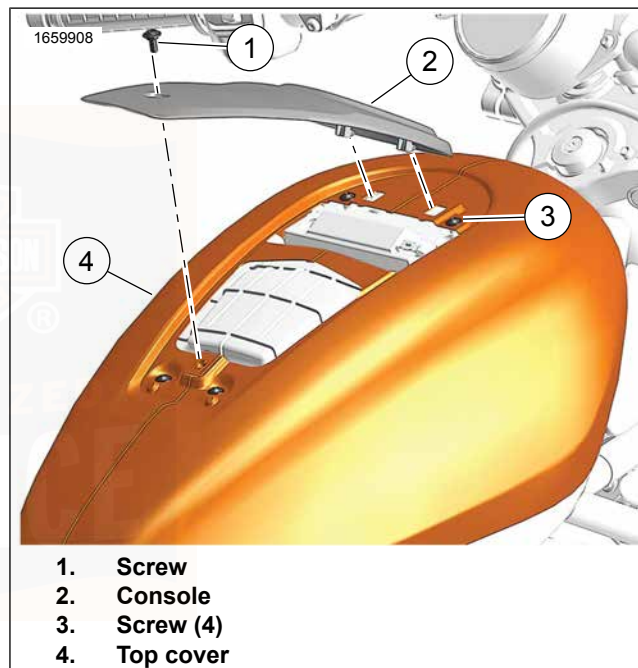
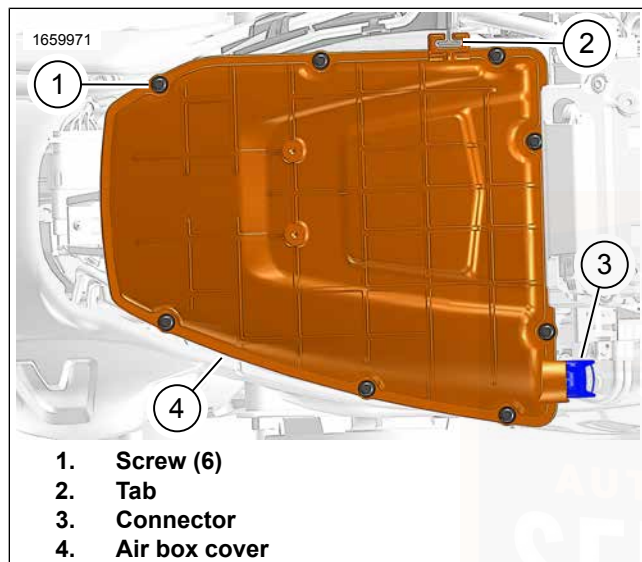
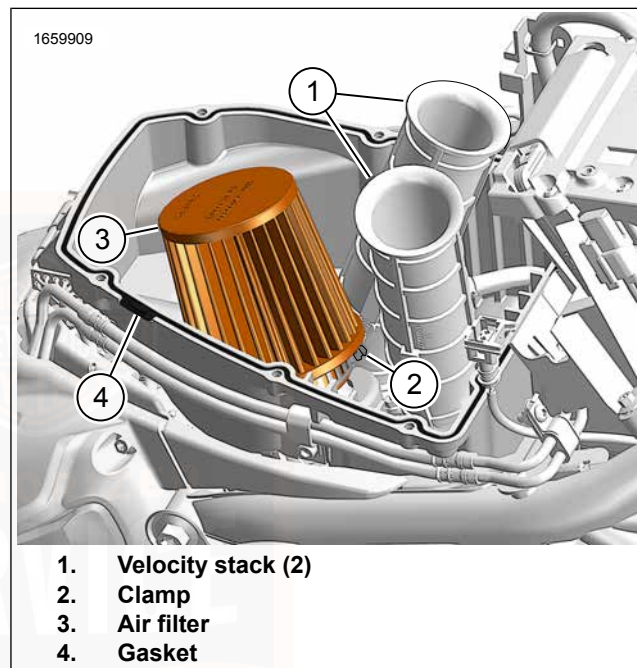

Figure 71. Top Cover
Figure 72. Air Box Cover
Figure 73. Air Filter Maintenance
1. See Figure 71. Remove top cover.
- a. Remove screw (1).
- b. Lift rear of console (2) to remove.
- c. Remove screws (3).
- d. Remove top cover (4).
2. See Figure 72. Remove air box cover.
- a. Disconnect connector (3).
- b. Remove screws (1).
- c. Remove air box cover (4).
3. See Figure 73. Remove air filter.
- a. Cover velocity stacks (1) with clean rags.
- b. Loosen clamp (2).
- c. Remove air filter (3).
- 1. See Figure 73. Install air filter.
- a. Install air filter (3).
- d. Remove rags from velocity stacks (1).
- e. Verify gasket (4) is in place. Replace gasket if damaged.
2. See Figure 72. Install air box cover.
- c. Connect connector (3).
3. See Figure 71. Install top cover.
- a. Install top cover (4).
- b. Install screws (3). Tighten.